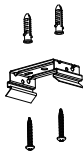

Figure 2
- Step2. Punch holes on the ceiling according to the installation size, and lock the mounting brackets in the accessories on the ceiling (Figure 2);